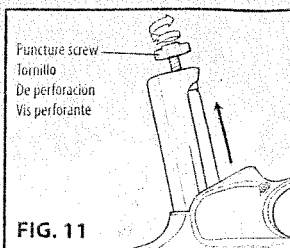

FIG. 11
2. With the butt of the grip cover removed, slowly open the puncture screw until any remaining CO₂ gas is discharged. (Fig.11)